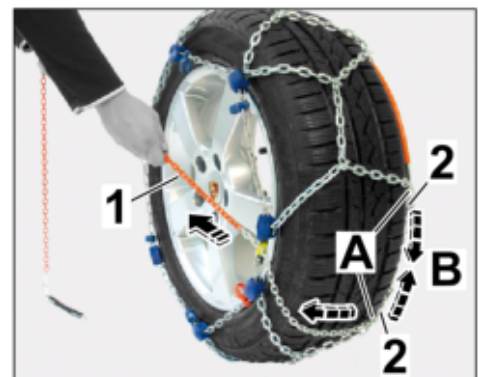

Figure 10
2.2.4 Grasp tensioning chain in the wheel running surface area and pull it firmly. (⇒ *Figure 10 -A-*).
The spring steel clip on the inside of the wheel closes (⇒ *Figure 10 -B-*).